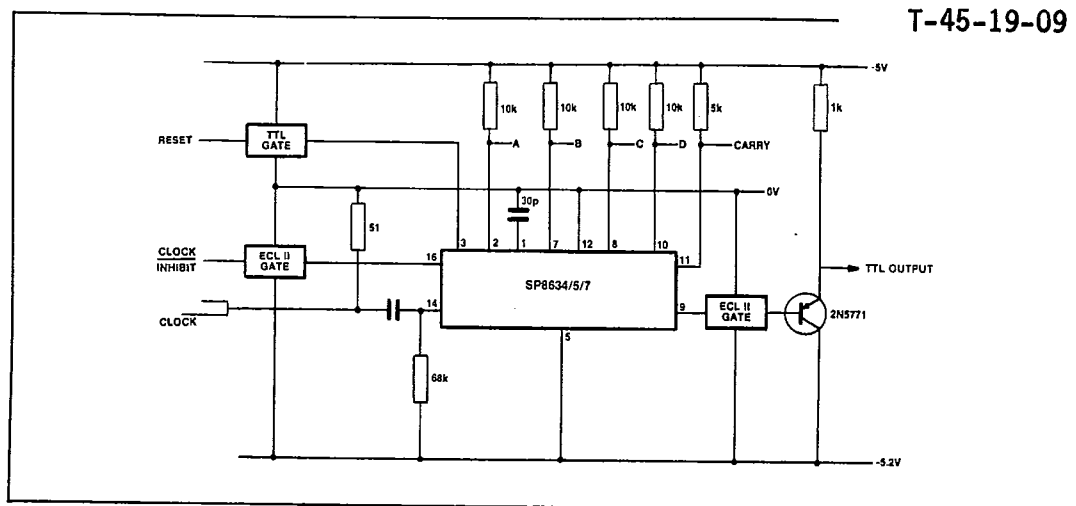
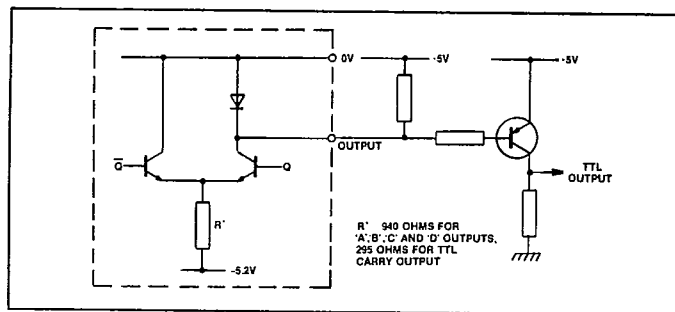

Fig. 6 Typical application configuration
Fig. 8 TTL output buffering for increased fan-out
6. The output (pins 2, 7, 8, 10 and 11) are current sources and can be made TTL compatible by addition of 10k and 5k (pin 11) to +5V. See Fig.6. This gives a fan-out of 1. This can be increased by buffering the output with a PNP emitter follower. See Fig.8.